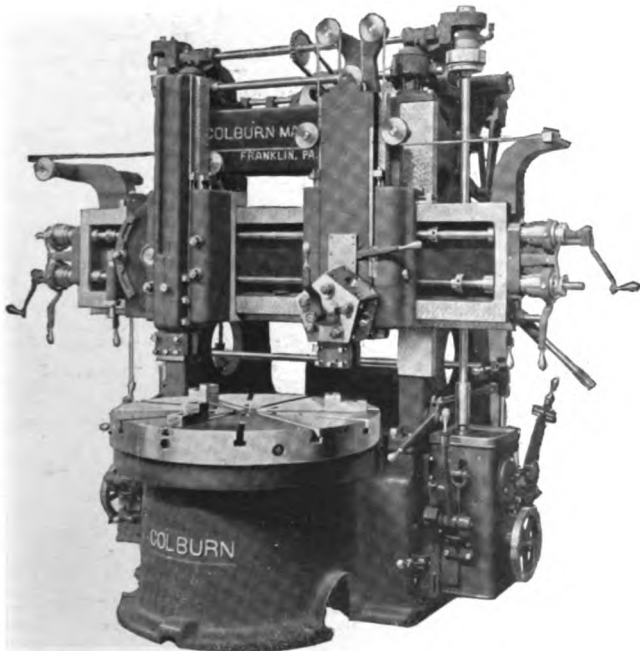

FIG. 12. 48-in. (1 219 mm.) VERTICAL BORING AND TURNING MILL WITH ONE SWIVEL AND ONE TURRET HEAD AND THREE JAW COMBINATION CHUCK
**HEADS**—The two heads are entirely independent in their movement as to direction and amount of feed, and are operated from separate feed boxes. Either head can be brought to the center for boring, a positive center stop determining the exact position. Turret head, as shown in Fig. 12, can be furnished, if desired. It is of heavy design and has a vertical travel of 26 in. (660 mm.) on all size mills. It is used in place of the regular right-hand swivel-head and operates vertically and horizontally but does not swivel. It has five sides with holes to fit tool holder shanks 2½ in. (64 mm.) in diameter for the 42, 48 and 54 in. (1 067; 1 219 and 1 372 mm.) and 2¾ in. (70 mm.) for the 60 and 72 in. (1 524 and 1 829 mm.). Each side is drilled and tapped with four ⅝-in. (16 mm.) holes for attaching special tools.